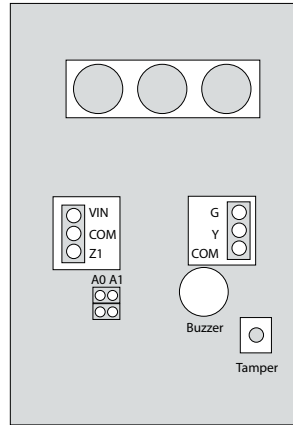

Fig. No. 11
- ATTENTION!** Before fixing the keyboard into the holder, please, make sure that the tamper button is properly pressed (see Fig. No. 11).